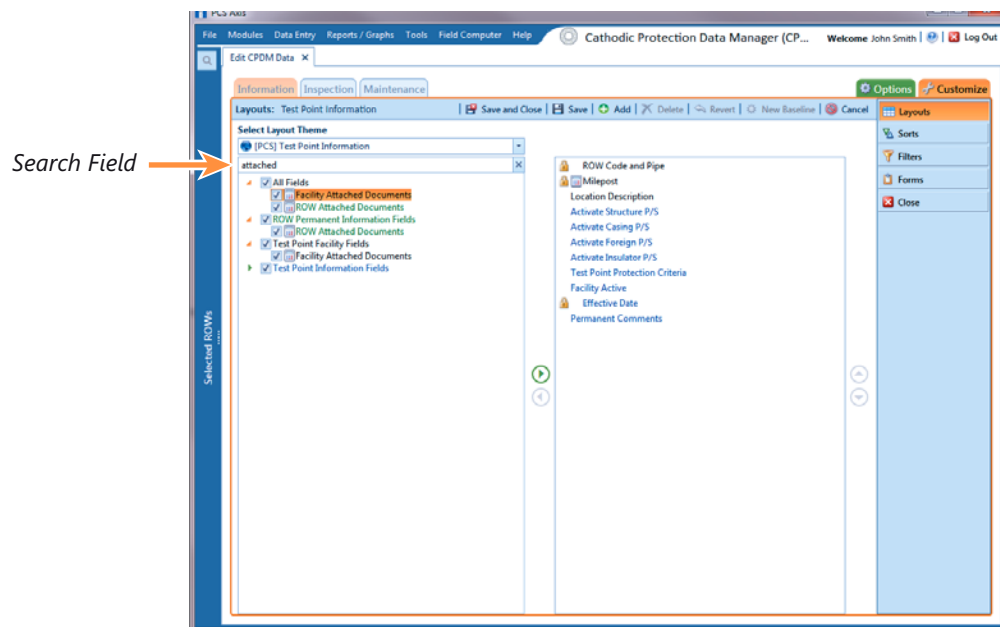

Figure 7-100. Layouts
- a Click the check box for the fields **Facility Attached Documents** and/or **ROW Attached Documents** in the left pane of the window (Figure 7-100, page 319).